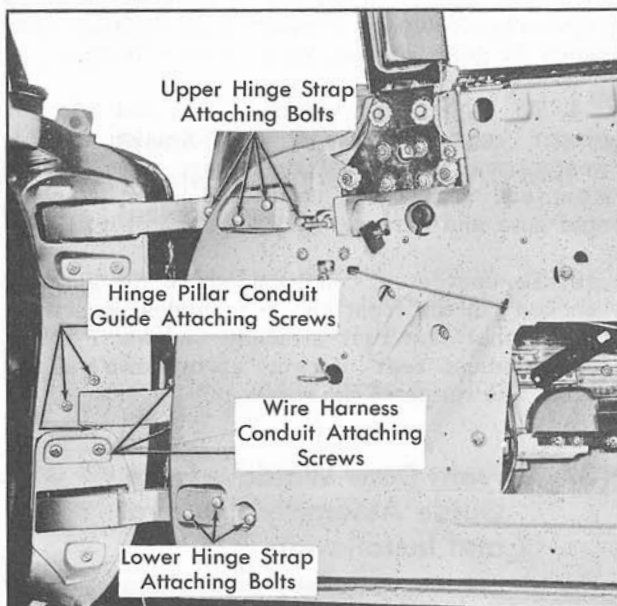

Fig. 17-31 Front Door Hinge Strap Location
7. Suitably support door for removal. Remove lower and then the upper hinge strap-to-door attaching bolts, Fig. 17-31.
(34) Front Door Adjustments
2. Loosen front door hinge pillar conduit guide attaching screws, Fig. 17-31.
4. Loosen upper and lower hinge strap attaching bolts, Fig. 17-31, shift door to desired position and tighten attaching bolts.